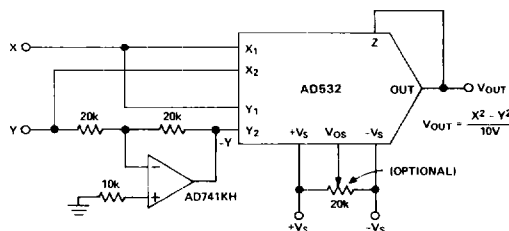

Figure 15. Differential of Squares Connection
The differential input capability of the AD532 allows for the algebraic solution of several interesting functions, such as the difference of squares, $X^2 - Y^2 / 10V$. As shown in Figure 15, the AD532 is configured in the square mode, with a simple unity gain inverter connected between one of the signal inputs (Y) and one of the inverting input terminals ($-Y_{in}$) of the multiplier. The inverter should use precision (0.1%) resistors or be otherwise trimmed for unity gain for best accuracy.